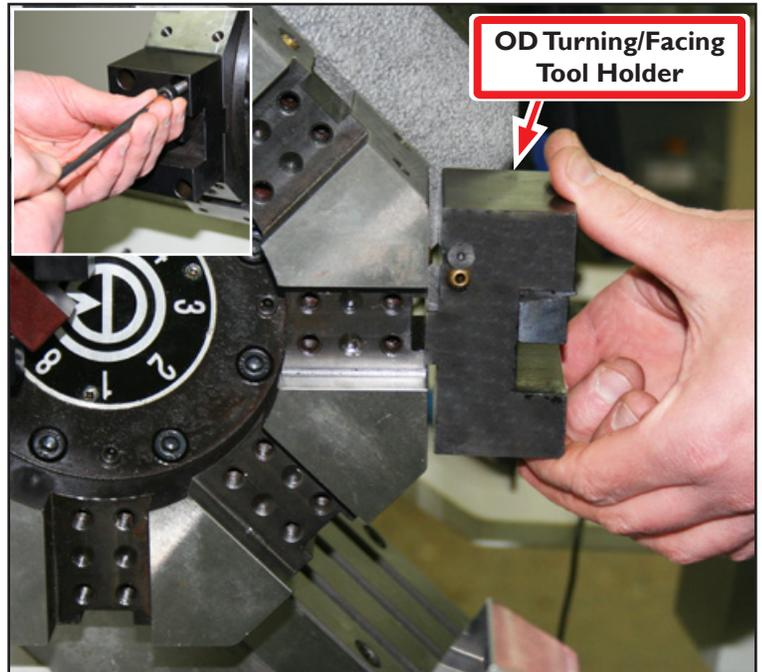

Figure 37
18. Using four M8 x 30 mm Socket Head Cap Screws, install OD Turning/Facing Tool Holder (see **Figure 37**); tighten snugly.